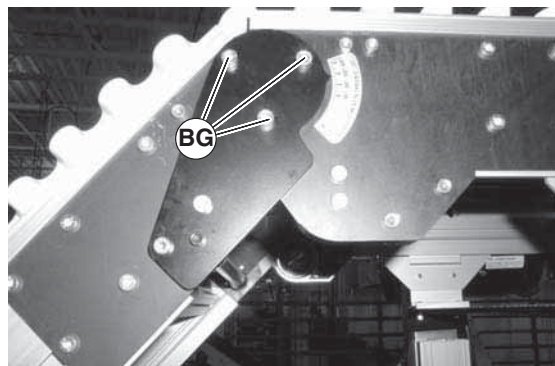

Figure 47
4. Move conveyor to desired angle as indicated by angle label (Figure 47, item BH).